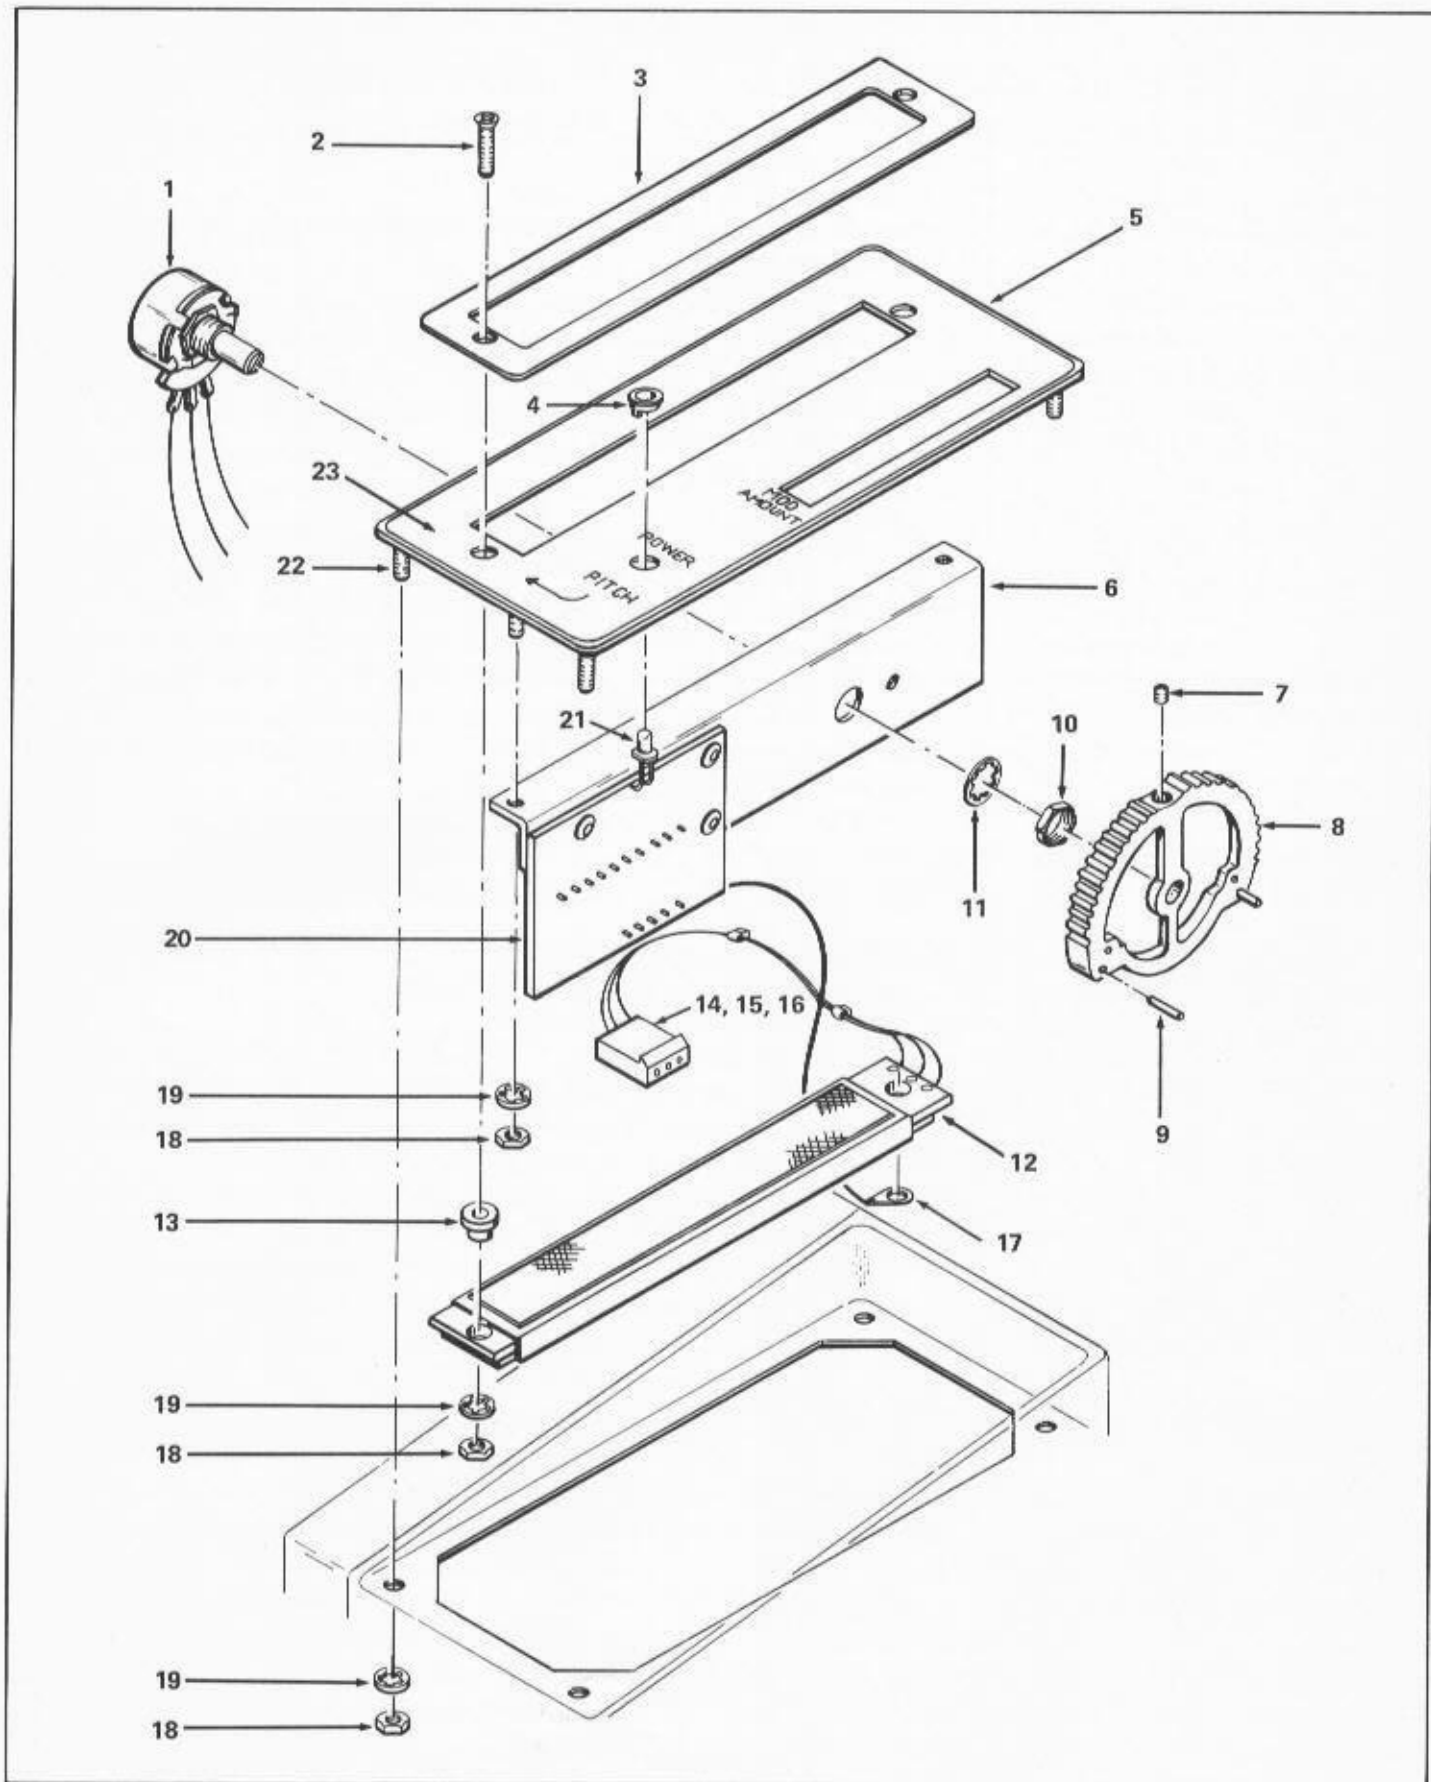

FIGURE 3-15 LEFT HAND CONTROLLER ASSEMBLY, PART NO. 997-041463-001
a) The left hand controller comes apart as shown in the blow-apart diagram (Figure 3-15). The ribbon sub-assembly (item 12) is not field repairable and should not be taken apart. It may be removed by taking out the two screws (item 2).
b) Mark the orientation of the bezel (item 3). Occasionally the bezel will not fit properly when turned around. The ribbon connects electrically via a 3-pin plug.